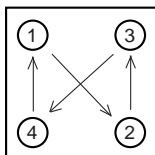

Figure 2.4 Sequence of Screw Tightening
- Screw the cable head to the socket with the screws provided. Progressively tighten the screws in the sequence shown in figure 2.4 until all are ‘finger tight’.